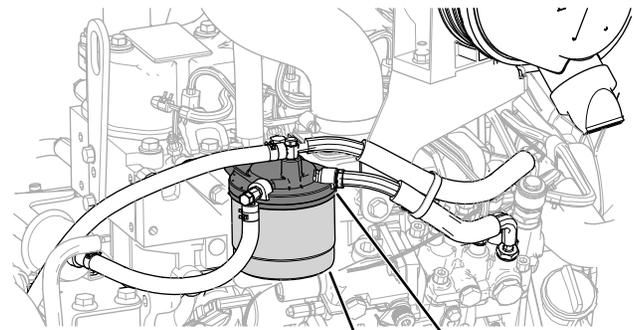

Figure 61
2. Remove the filter and clean the filter head mounting surface (Figure 61).
1. Clean the area around the fuel-filter head (Figure 61).